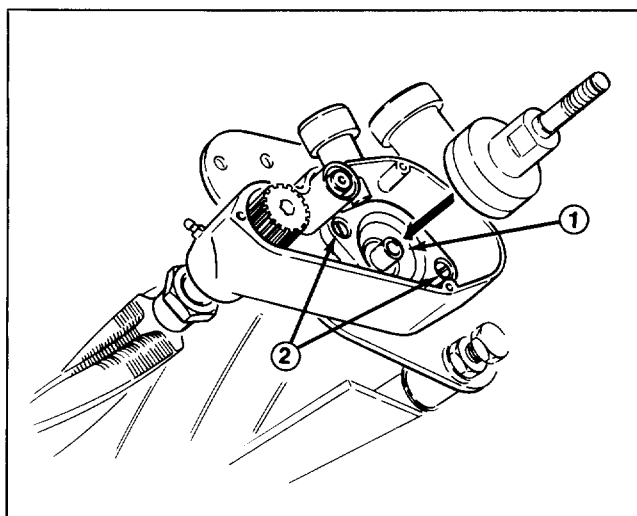

Figure 25
5. Remove the large bearing adjustment nut from the reel shaft and the special spline nut at the right end of the reel shaft (Fig. 25).
6. Remove the bearing housings on both ends. Flathead socket screws are on the left side and studs and locknuts on the right side (Fig. 25).